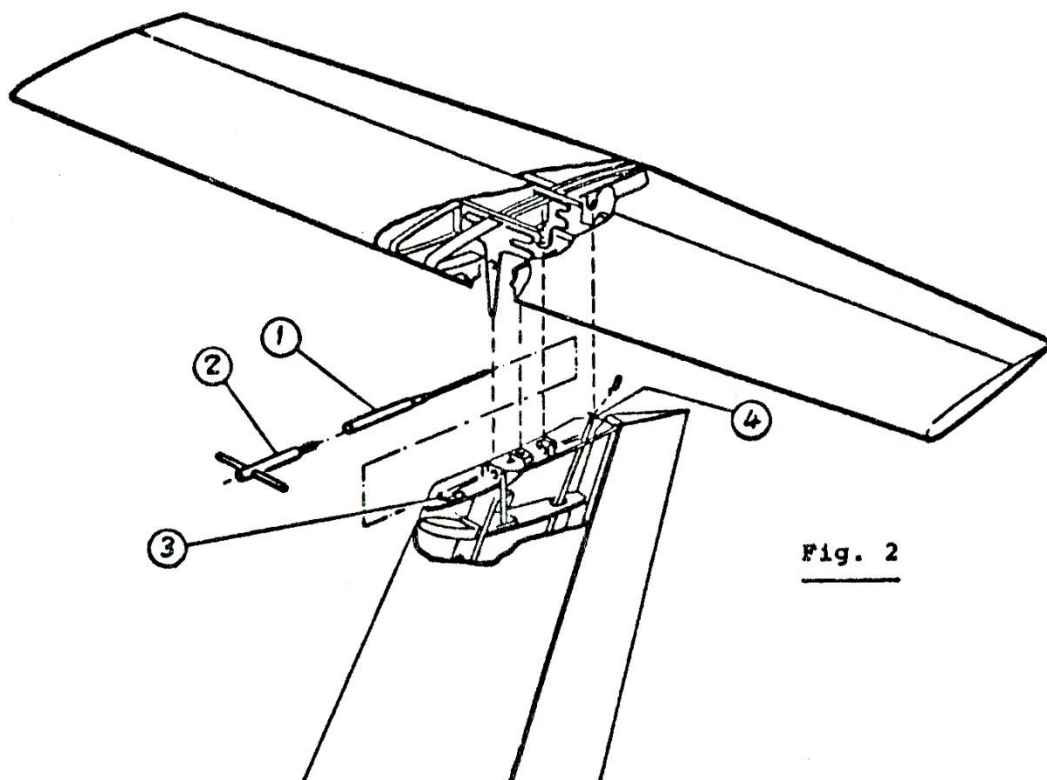

Fig. 2
1.3 Empennage Assembly (see Fig. 2)
- Pull out attachment bolt (1), using handle (2)
- Install attachment bolt (1); screw out the handle and stow it in the cockpit bag. Ensure that the safety spring (3) is engaged.
- Reconnect elevator control rods by installing pin (4) and secure it.